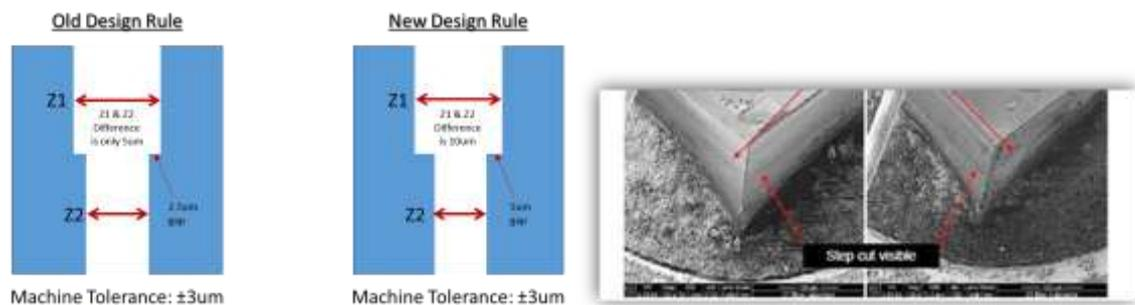

Fig. 3. Linear Tolerance Analysis and Step Cut Visibility
- Linear Tolerance analysis shown on figure 3, which with a wafer sawing machine tolerance of $\pm 3\mu m$ and a blade combination design rule of: Z1 and Z2 blade thickness variation of $5\mu m$ will really have a $0.5\mu m$ probability of cutting the Z1 cut.